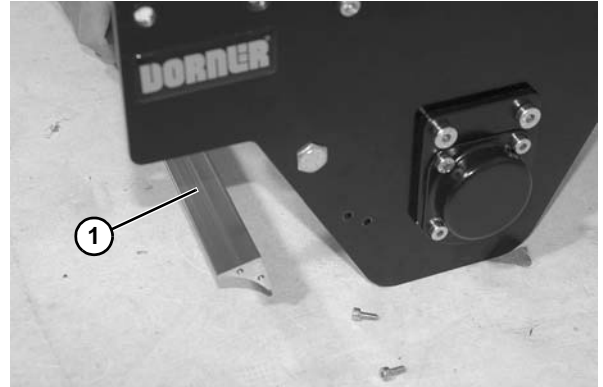

Figure 54
6. Remove pinch guard (Figure 54, item 1).
Note orientation of guard (Figure 54, item 1) before removing from end plates.